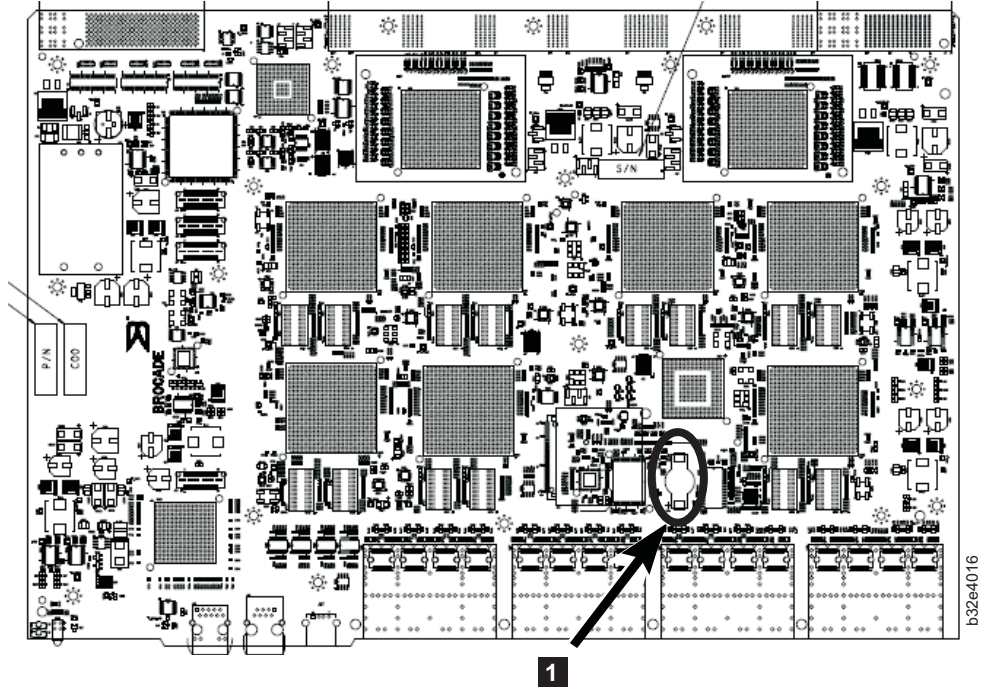

Figure 49. Encryption blade battery location
7. For the optional FS8-18 encryption blade, go to the BC1 location (see **1** in Figure 49 on page 132) on the main board and remove the BR1225 battery.